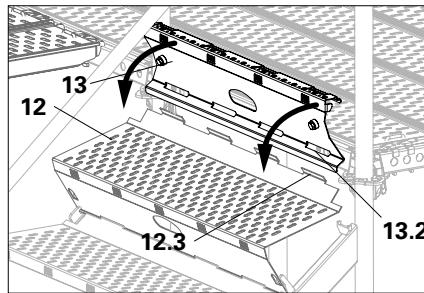

Fig. A2.11a
1. Lift the step installed most recently (12) out of the holder slightly so that it is at an angle. (Fig. A2.11a)